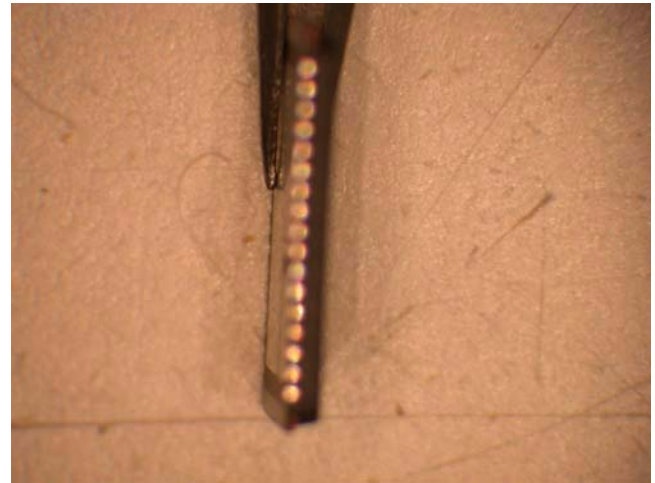

FIGURE 13. CALIPER THICKNESS MEASUREMENT OF REPLACEMENT QFN
1. Measure and record the thickness of the replacement QFN using a caliper. Be sure to measure the thickness from the top plane of the package to the bottom plane of the package that contains the large center thermal land (see Figure 13). This measurement will be used later in this procedure.